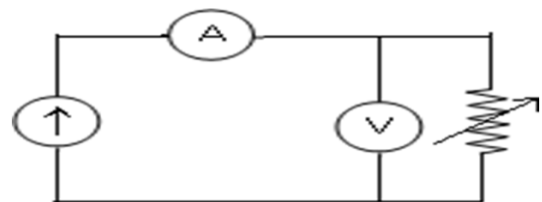

Fig .2
1. Connect the circuit as fig 2